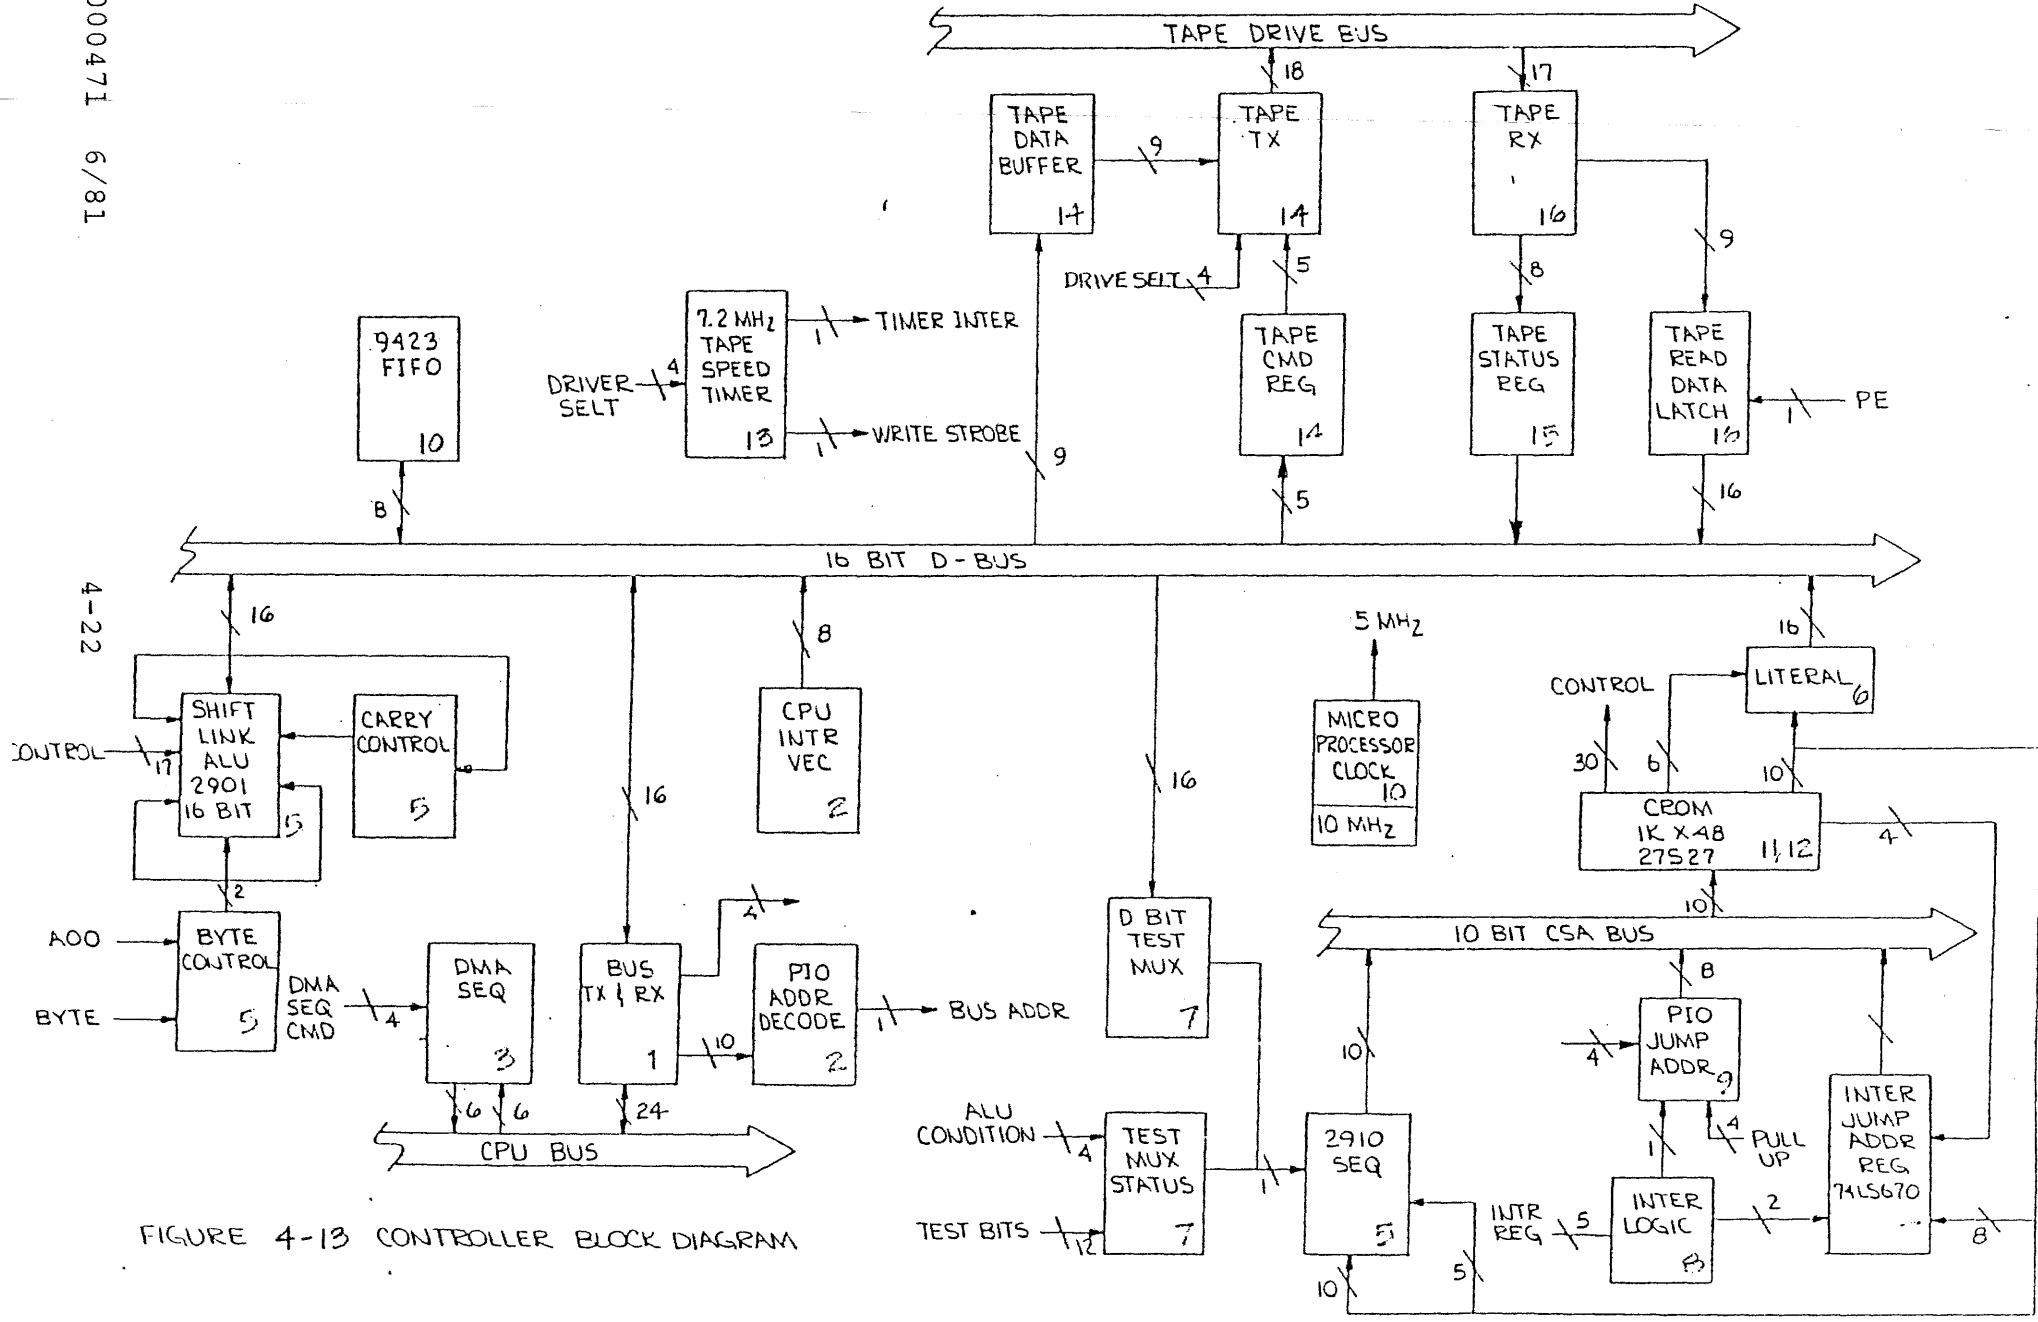

FIGURE 4-13 CONTROLLER BLOCK DIAGRAM
4.28 The controller hardware can be logically divided into four sections; tape interface, phase encoded data recovery, microprocessor, and computer interface. Each area will be discussed separately. A block diagram of the controller is shown in Figure 4.13